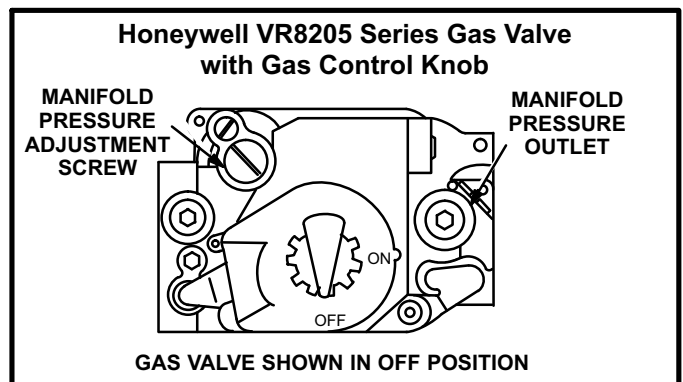

FIGURE 23
*Honeywell VR8205 Gas Valve with Control Knob* - Turn knob on gas valve clockwise  to **OFF**. Do not force. See figure 23.
*Honeywell VR8205 Gas Valve with Control Knob* - Turn knob on gas valve counterclockwise  to **ON**. Do not force. See figure 23.